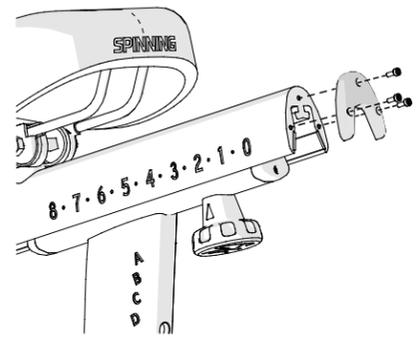

Figure 8
3. Attach the seat slider end cap **8** using three bolts **3** (Figure 8) and fully tighten with the hex key **7**.